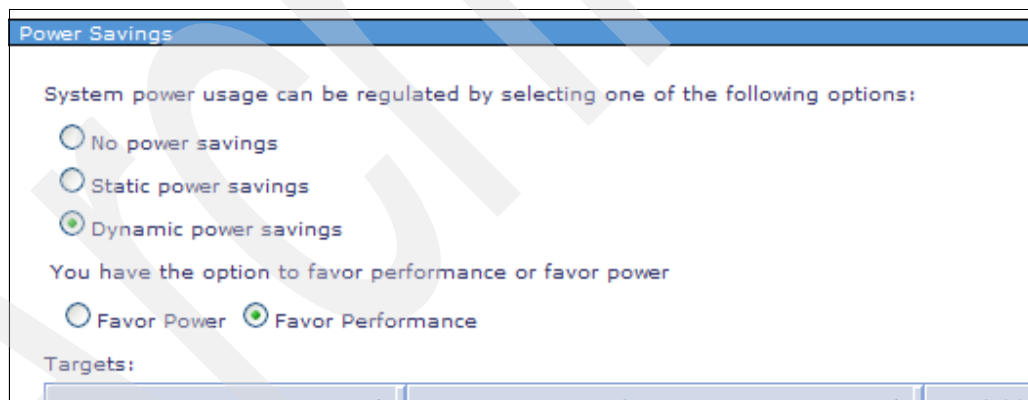

Figure 5-32 Power saving mechanisms
5. Select **Dynamic power savings**. Choose from two options: Favor Power mode and Favor Performance mode, as shown in Figure 5-32.